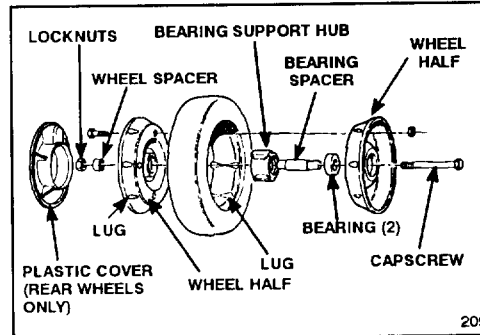

Figure 20
SERVICING WHEELS (Fig. 20)
1. Position tire onto (1) wheel half, aligning lugs on each (Fig. 20).
4. Using (2) 1/4–20 x 1.50" lg. fully threaded screws or bolts and non-locking nuts, loosely secure wheel halves together. Mount screws or bolts in opposing holes.